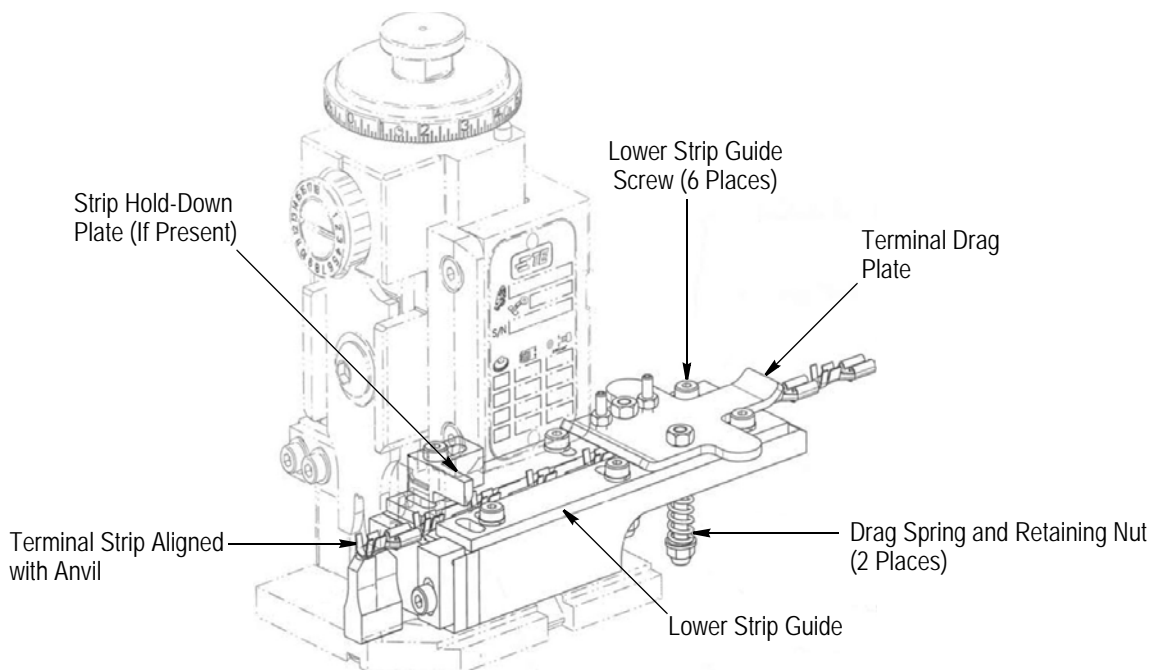

Figure 10
3. Remove the two nuts holding the springs in place on the terminal drag plate. Refer to Figure 10.
8. If present, adjust the strip hold-down plate (shown in Figure 10) so that it is square with the terminal strip and positioned so that it will not interfere with the slug blade tooling on the ram (shown in Figure 4).